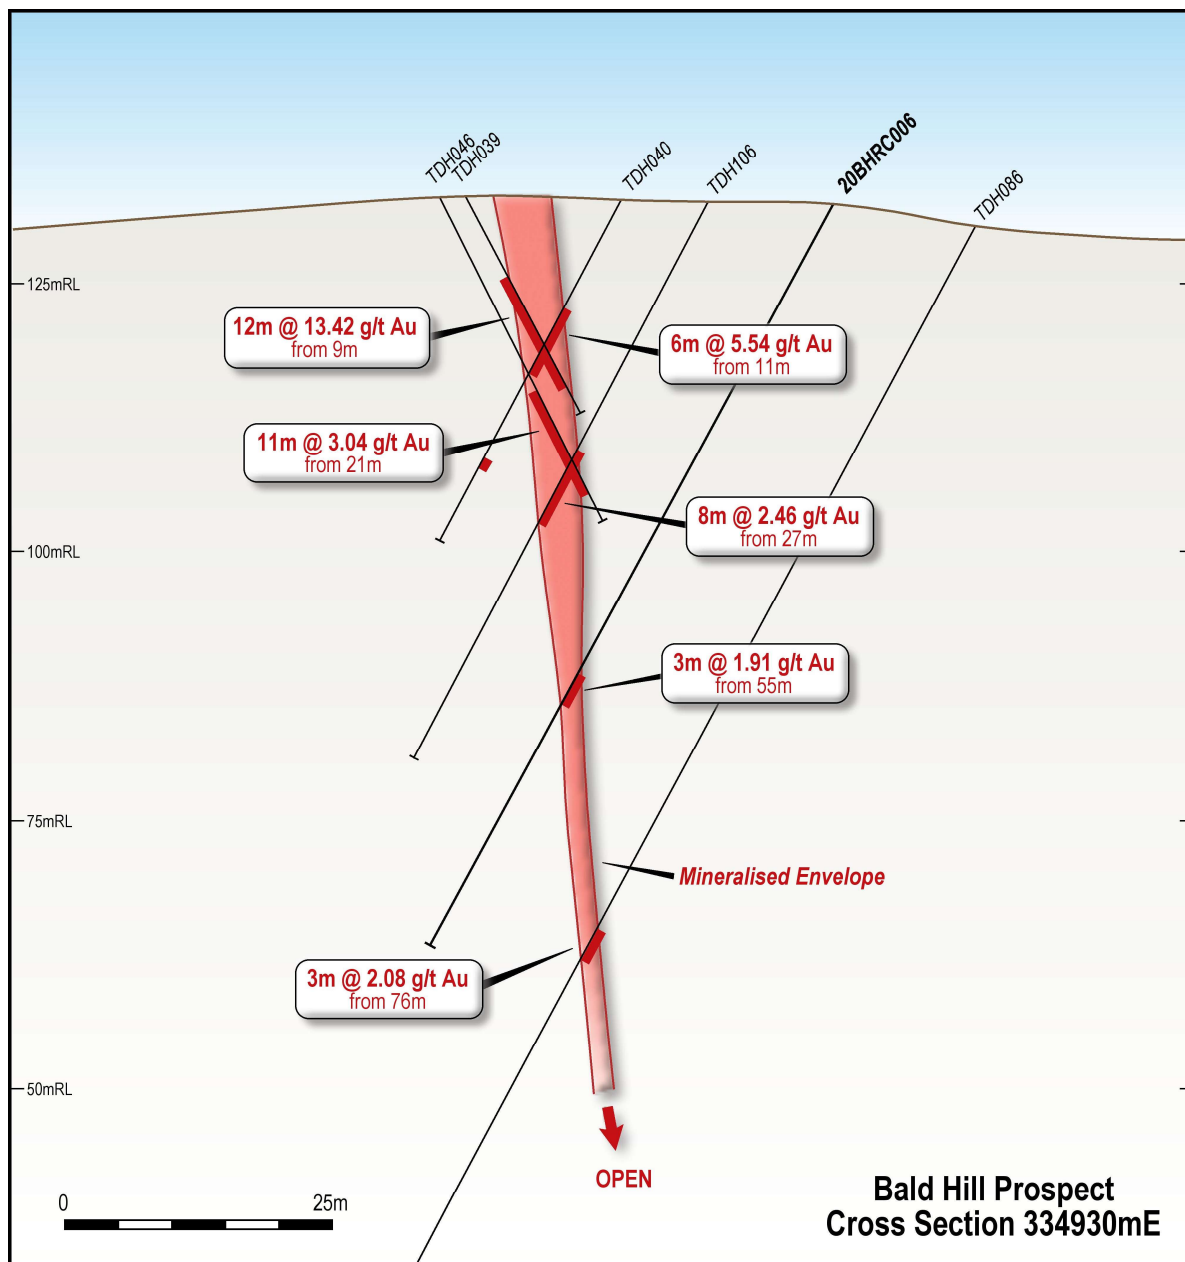

Figure 6: Cross Section through 334930mE at Bald Hill West.
Mineralisation was intersected, at or very near to, target depths for each hole drilled. A localised zone of high-grades and thicknesses exists around the 334,930mE section (Figure 6). The localised high-grade is coincident with the intersection of a NNW trending induced polarisation (IP) chargeability conductor. Further work will be undertaken on the influence of this NNW trending conductor (Figure 7). The intersection of the Bald Hill system and the Norton Fault also remains a future target.